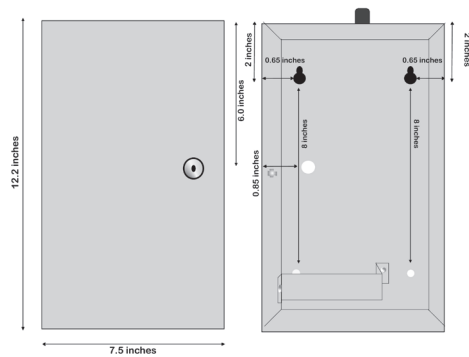

FIGURE 2:
Position the bottom of the 2550-CB enclosure where it will be installed. Use four (4) #6 screws and mount the unit using the four holes in the enclosure's back. The 2550-CB unit's dimensions are shown in Figure 2.